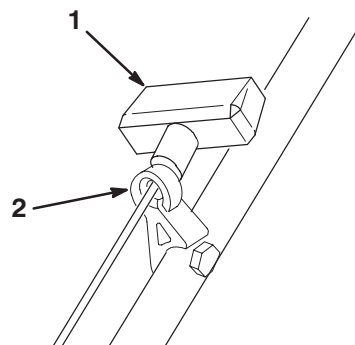

Figure 3
1. Pull starter rope through rope guide on handle (Fig. 3). By squeezing control bar to handle, blade brake will release and allow rope to be pulled up easily to loop.